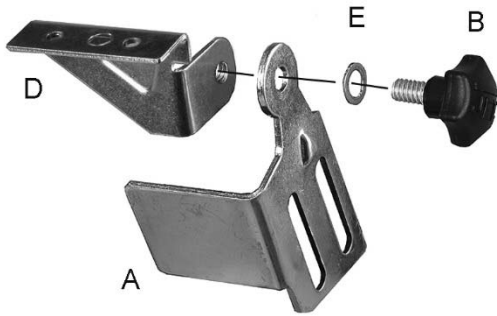

Figure 5-2: bracket to spark guard
Refer to *Figure 5-2*.
Note: Spark guard (A) and eye shield bracket (D) are marked L for left side assembly. Assemble the spark guard and eye shield bracket using Figure 5-2 as a guide.